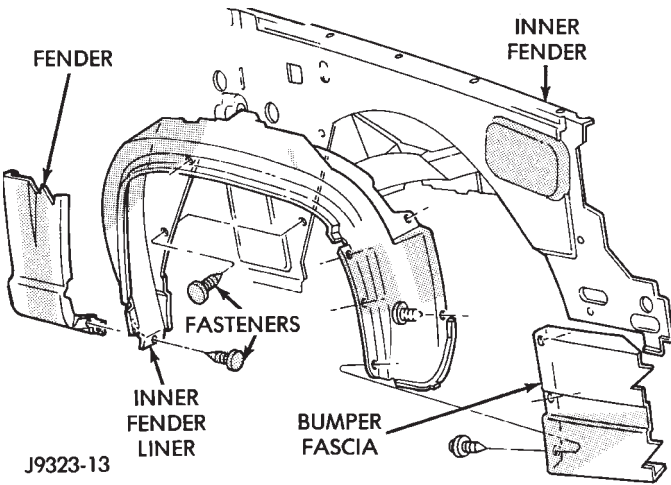
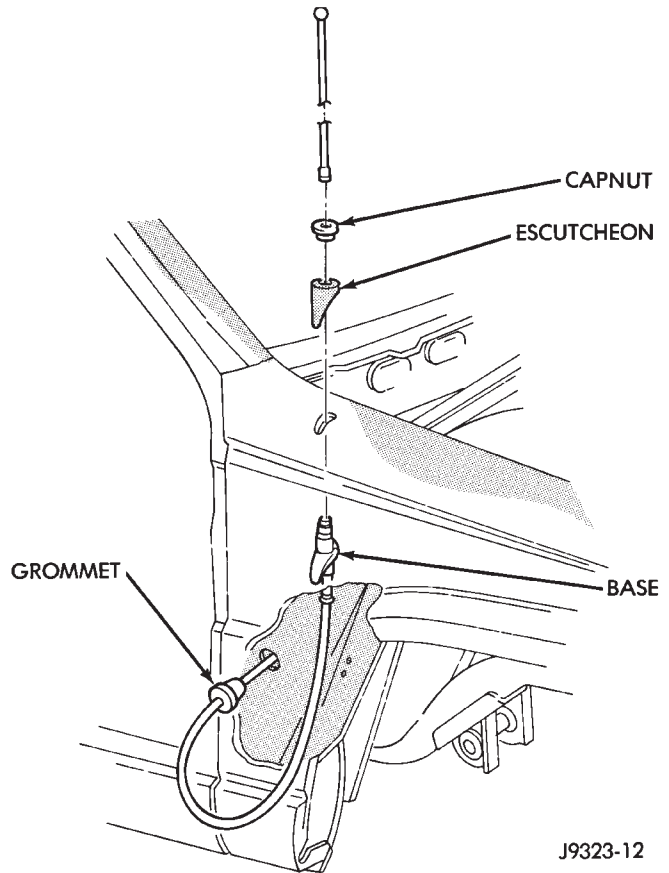

Fig. 20 Inner Fender Liner
Fig. 21 Radio Antenna
- (1) Remove headlamp, side marker and turn signal lamp. Refer to Group 8L, Lamps for service information.
- (2) Remove front bumper fascia. Refer to Group 13, Frame and Bumpers for service information.
- (3) Remove front wheel.
- (4) Remove 12 fasteners attaching inner front fender liner to fender and inner fender (Fig. 20).
- (5) Remove inner fender liner.
- (6) Right fender only:
- If equipped, remove radio antenna mast, nut, pad and base from fender (Figs. 21 and 22);
- (2) Install all of fender attaching screws finger-tight (Figs. 20, 23 and 24).
- (3) Align fender with adjacent body panels. Tighten fender bolts to 9 N•m (80 in-lbs) torque.
- (4) Install inner fender liner (Fig. 20).
- (5) Install front wheel.
- (6) Install front bumper fascia. If necessary refer to Group 13, Frame and Bumpers for installation instructions.